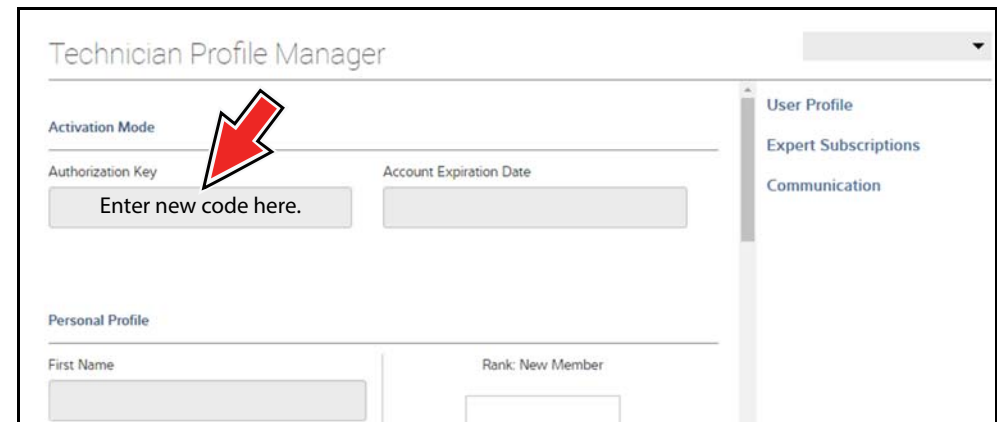

Figure 17-17
7. Enter your new **Authorization code** (Figure 17-17).